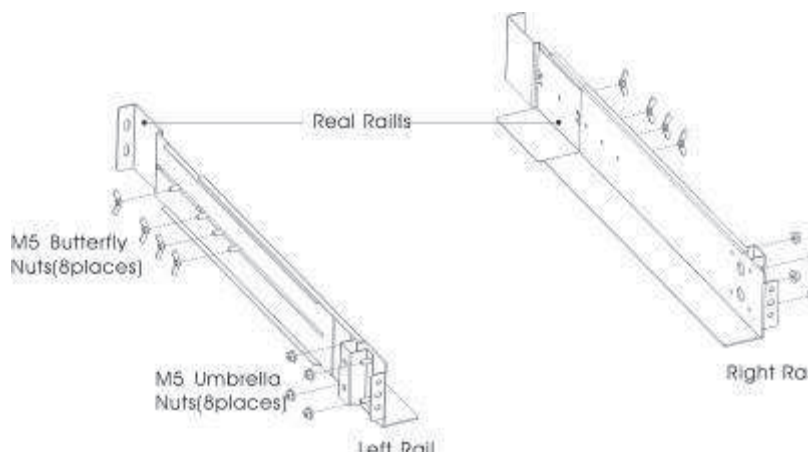

Figure 1 Securing the Rails
(1) To install the rail kit
- Assemble the left and right rails to the rear rails as shown in Figure 1. Do not tighten the screws.
- Tighten four M5 Umbrella Nuts in the side of rail assembly (see Figure 1).